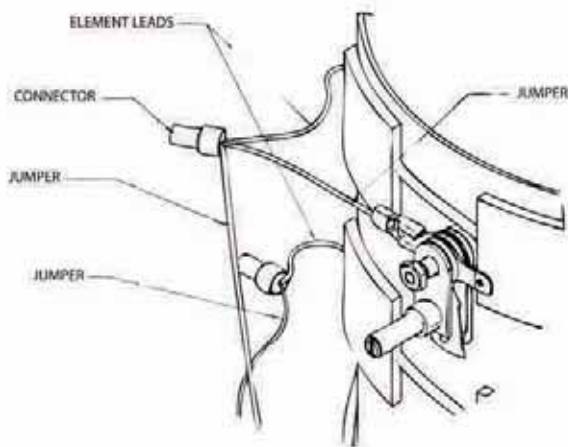

FIGURE 1
6. Loosen and remove existing band clamp. If your oven has the old style wire wrapped heating elements, remove the crimp-type electrical connectors from the element leads. Refer to Figures 1 & 2 below. Peel off foil tape pieces holding the heating elements.
9. Remove the crimp-type electrical connectors from the element leads. Refer to Figures 1 & 2 on previous page (Dual Volt Heating Elements).
5. Using the crimp-type electrical connectors supplied, re-connect the element leads and jumper wires according to the wiring diagram and Figures 1 & 2 on previous page (Dual Volt Heating Elements).